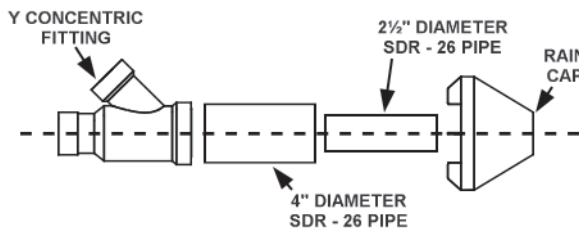

Figure 24
- Cement Y concentric fitting to larger diameter kit pipe, see Figure 24.
- Cement rain cap to smaller diameter kit pipe, see Figure 24.
- a) Cement the Y concentric fitting to larger diameter kit pipe, see Figure 24.
- b) Cement the rain cap to the smaller diameter kit pipe, see Figure 24.